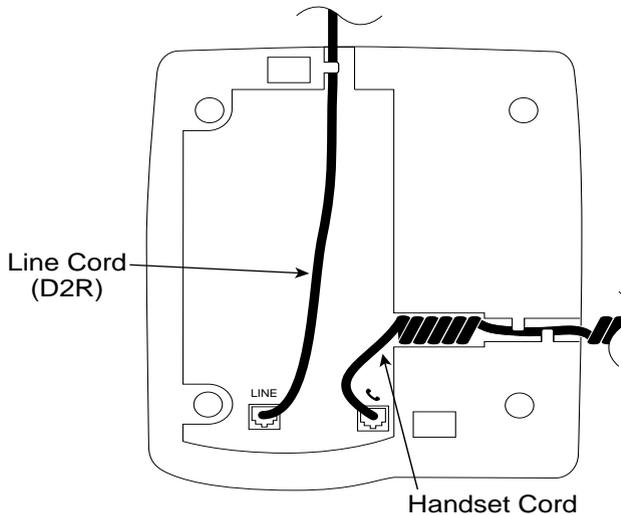

Figure 3-3. Jacks and Placement of Cords for the 4400 and 4400D Telephones
- On the 4400 and 4400D telephones the jacks on the bottom accommodate the connection of the handset and the line cord. Refer to Figure 3-3 for jacks and placement of cords for the 4400 and 4400D telephones.